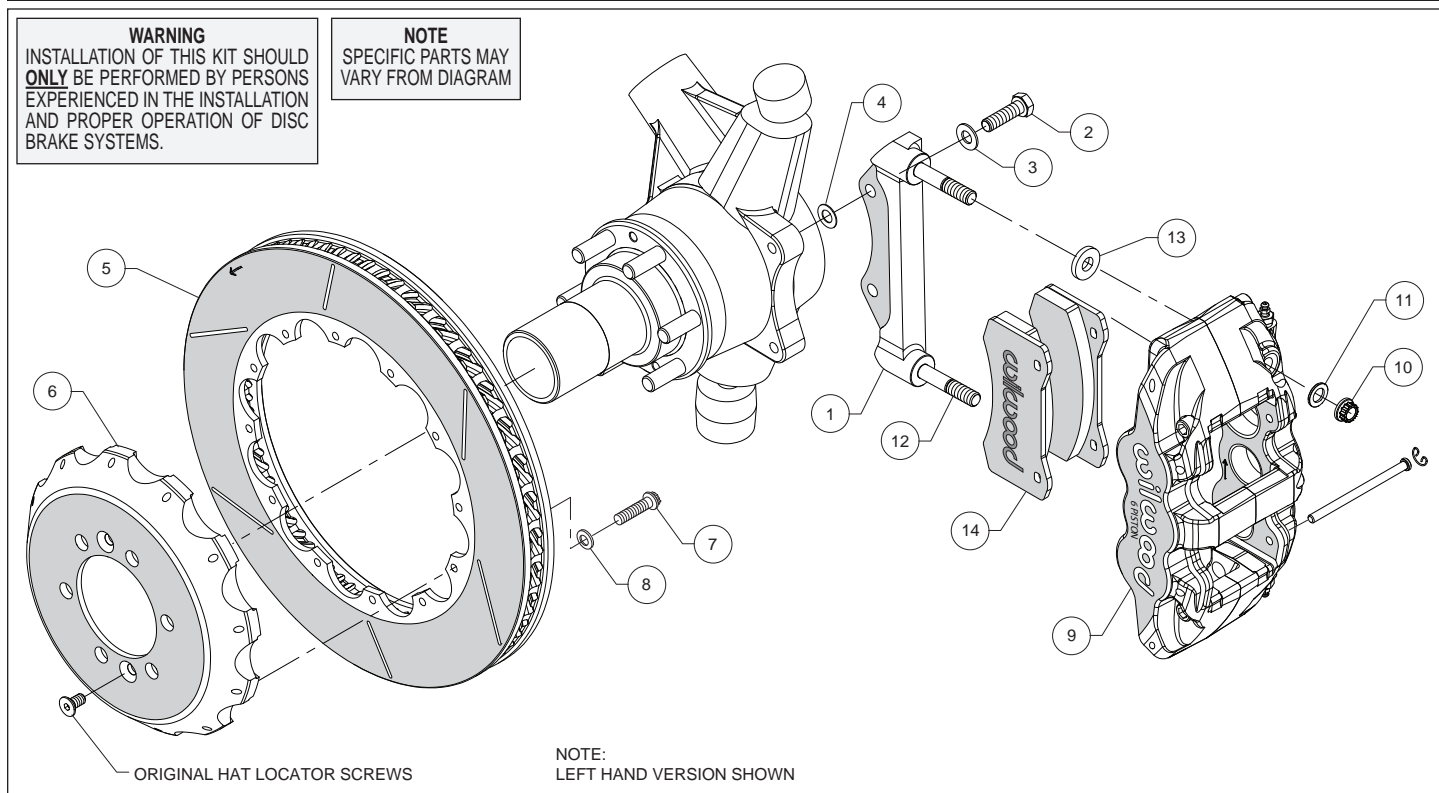
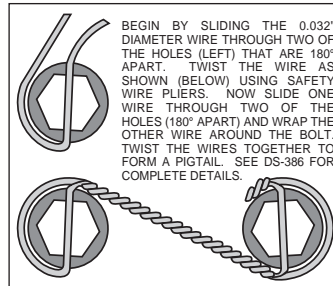

Figure 1. Typical Installation Configuration
Figure 3. Safety Wire Diagram
Assembly Instructions (numbers in parenthesis refer to the parts list and Figure 1 on the preceding pages):
- The caliper mount bracket (1) should initially be installed with clean, dry threads on the mounting bolts. Orient the bracket as shown in Figure 1 and Photo 1, and install using bolts (2) and washers (3). Initially place one .030 thick shim (4) on each bolt between the bracket and upright, Figure 1. Temporarily tighten the mounting bolts. **NOTE:** *The bracket must fit squarely against the mounting points on the upright.* Inspect for interference from casting irregularities, machining ridges, burrs, etc. Later, after the caliper alignment has been checked, the mount bolts will be secured using red *Loctite*® 271.
- Orient the rotor (5) and the hat (6) as shown in Figure 1 and Photo 2. Attach rotor to hat using bolts (7) and washers (8). Using an alternating sequence, apply red *Loctite*® 271 to the threads, and torque to 155 in-lbs. For an added measure of security, the bolts may be safety wired using standard 0.032 inch diameter stainless steel safety wire as shown in Figure 3. Please refer to Wilwood's data sheet DS-386 (available at www.wilwood.com/Pdf/DataSheets/ds386.pdf) for complete safety wire installation instructions.
- NOTE:** *This kit contains distinct right and left hand calipers that must be mounted in a specific direction, as described below.* Lubricate the caliper mounting studs (12) with lightweight oil. Place one spacer (13) on each stud between the caliper and the bracket, as shown in Figure 1 and Photo 4. Mount the caliper (9) onto the bracket (1) using lock nuts (10) and washers (11), Figure 1. Ensure that the caliper is mounted so the largest pistons are at the rotor exit end of the caliper, in relation to the direction of rotor rotation. Temporarily tighten the lock nuts and view the rotor through the top opening of the caliper. The rotor should be centered in the caliper, Photo 5. If not, adjust by adding or subtracting shims (4) between the bracket and the upright. Always use the same amount of shims on each of the two mounting bolts. Once the caliper alignment is correct, remove the bracket mounting bolts (2) one at a time, apply red *Loctite*® 271 to the threads, and torque to 35 ft-lbs.
- Remove the two pad retaining pins from the caliper (9) by carefully popping out the pin retaining clips and sliding out the pins. Insert the brake pads (14) into the caliper from the bottom, Figure 1 and Photo 6. With the friction material facing the rotor, secure the brake pads in place with the pad retaining pins and clips, Photo 7. Reinstall the caliper onto the caliper mounting bracket and torque the caliper lock nuts (10) to 47 ft-lb.